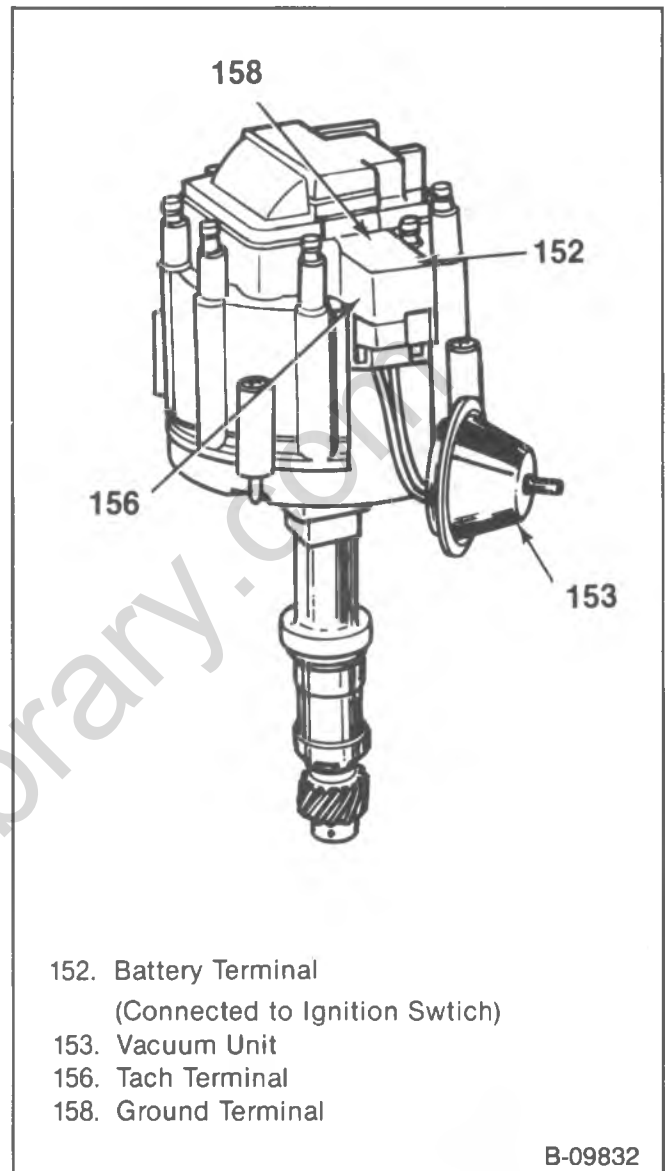
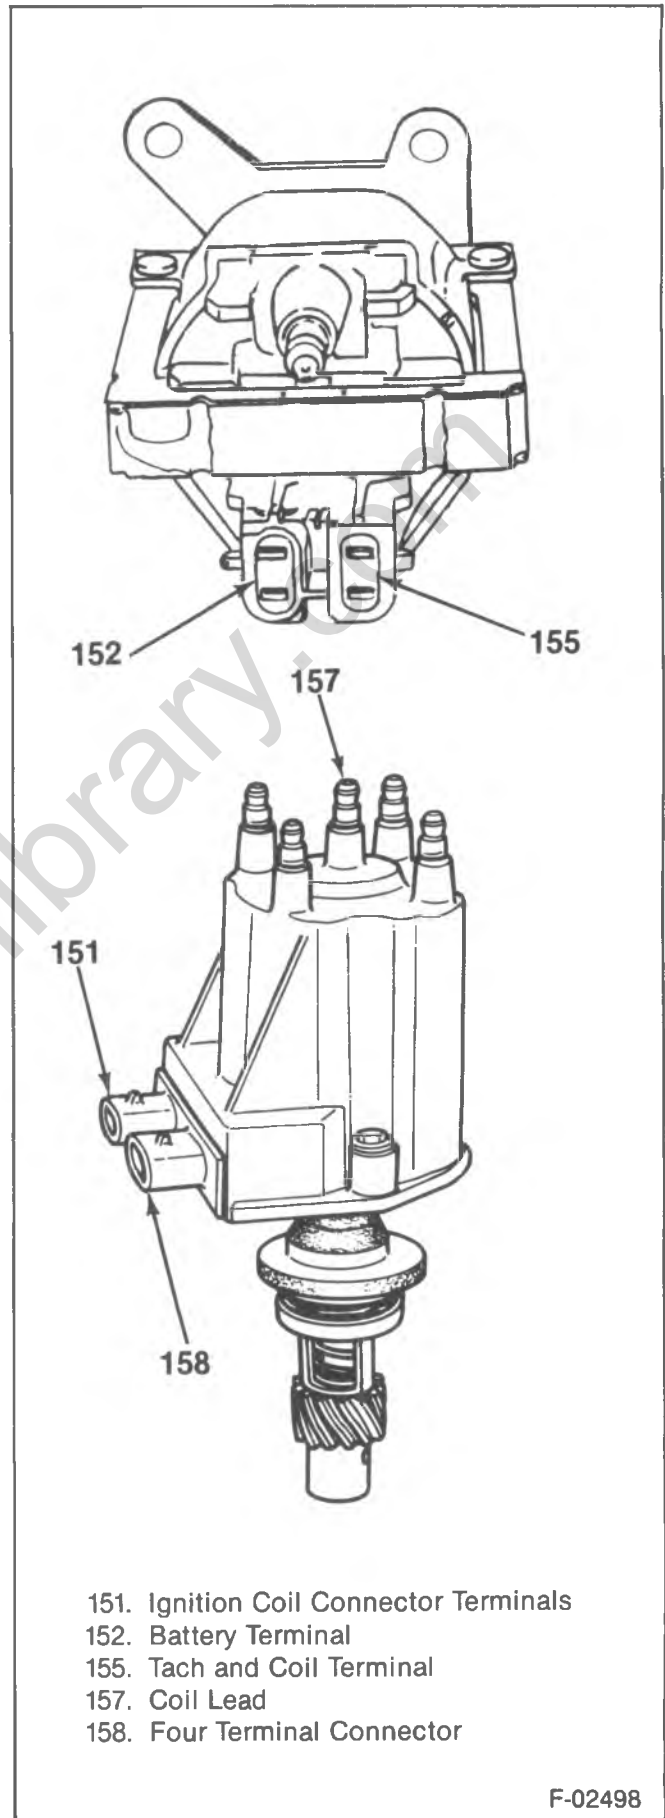

Figure 42—Distributor with Integral Coil
Figure 44—Distributor with Sealed Module Connectors and Separate Coil
The distributor with an integral coil combines all ignition components in one unit (figures 42 and 43). The coil is in the cap and connects through a resistance brush to the rotor. On a distributor with a separate coil the coil connects to the rotor through a high tension wire (figure 44).
1. CHECK SPARK AT PLUG WITH ST-125 WHILE CRANKING (VIEW A, B, FIGURE 44). IF NO SPARK ON ONE WIRE, CHECK A SECOND WIRE. A FEW SPARKS AND THEN NOTHING IS CONSIDERED NO SPARK.
3. On integral coil distributors, the tachometer (TACH) terminal is next to the engine control switch (BAT) connector on the distributor cap. On distributors with separate coils, the TACH terminal is at the coil (figure 44).